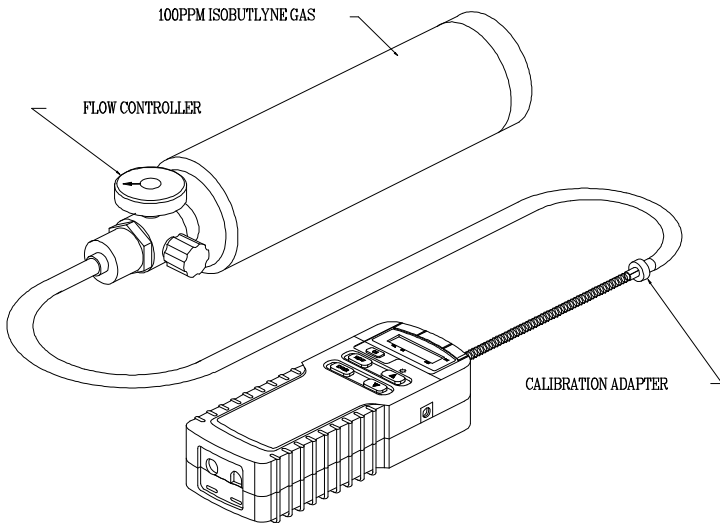

Figure 4.2 Standard Reference Gas Calibration Setup
Figure 4.2 shows the typical installation of standard reference gas calibration. It includes:
1. Insert the calibration adapter into the gas inlet tube of the Personal PID Unit, and connect the calibration adapter with the standard gas bottle, as shown in Figure 4.2.